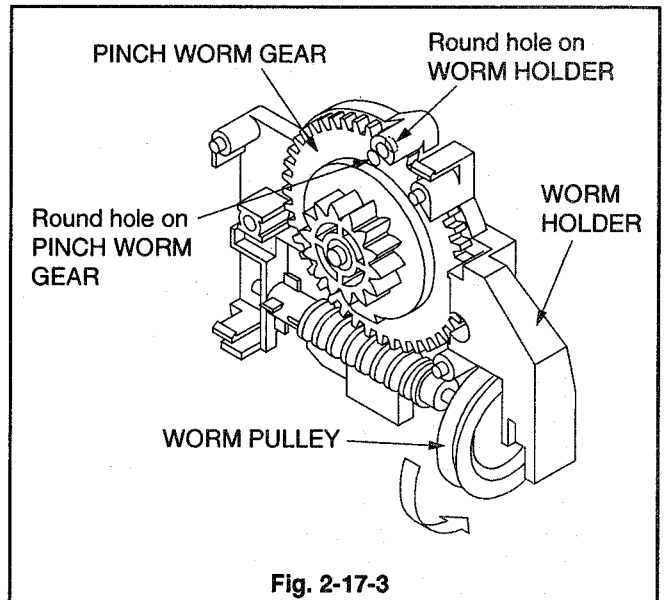

Fig. 2-17-3
- 3 Turn the WORM PULLEY shown in Fig. 2-17-3 so that the round hole of the PINCH WORM GEAR matches with that of the WORM HOLDER.